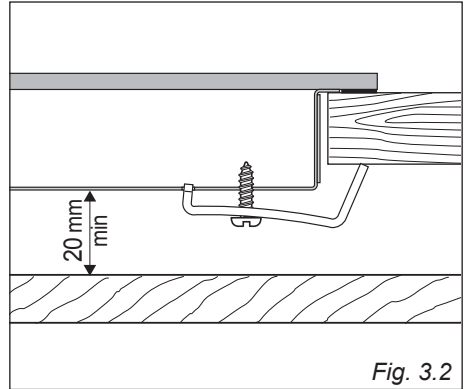

Fig. 3.2
- **NOTE:** A partition should be fitted a minimum of 2 cm below the base of the hob (fig. 3.2).